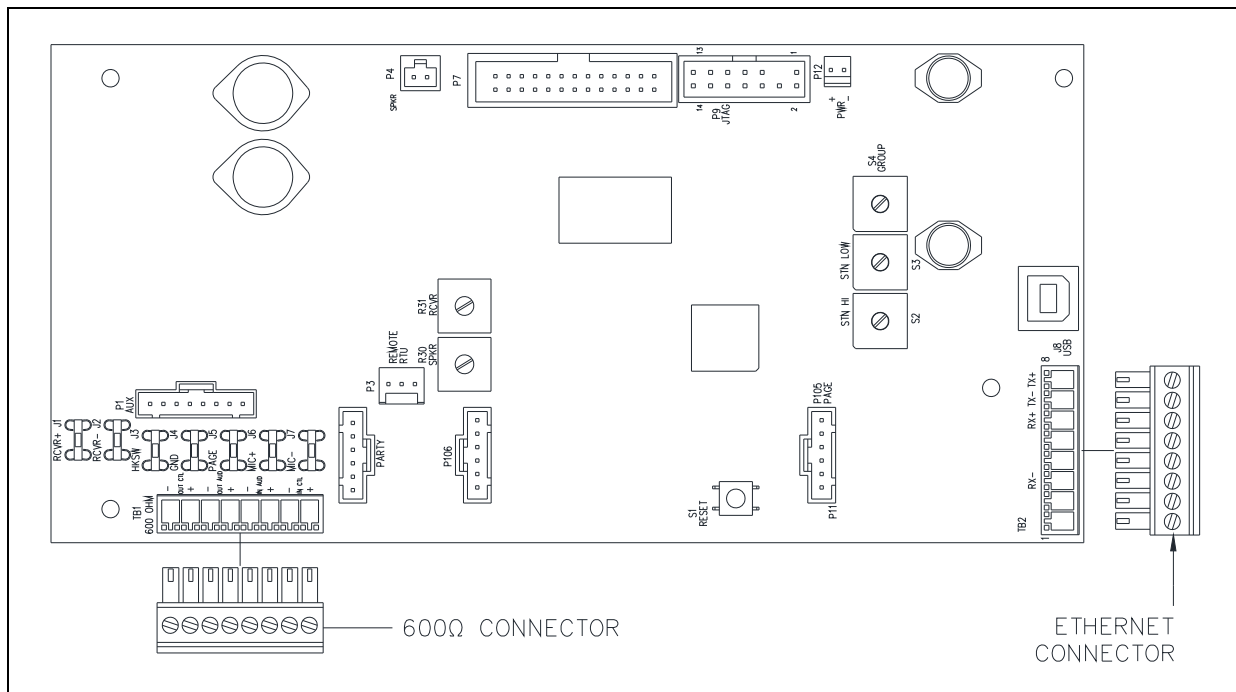

Figure 10. SP2 Main PCBA (Ethernet)
3. Connect the 600-ohm audio wires to the pluggable terminal block for the 600-ohm audio I/O connection (see Table 6 and Figure 10).
4. Connect the pluggable terminal block to the Main PCBA terminal block TB2 (see Figure 10).